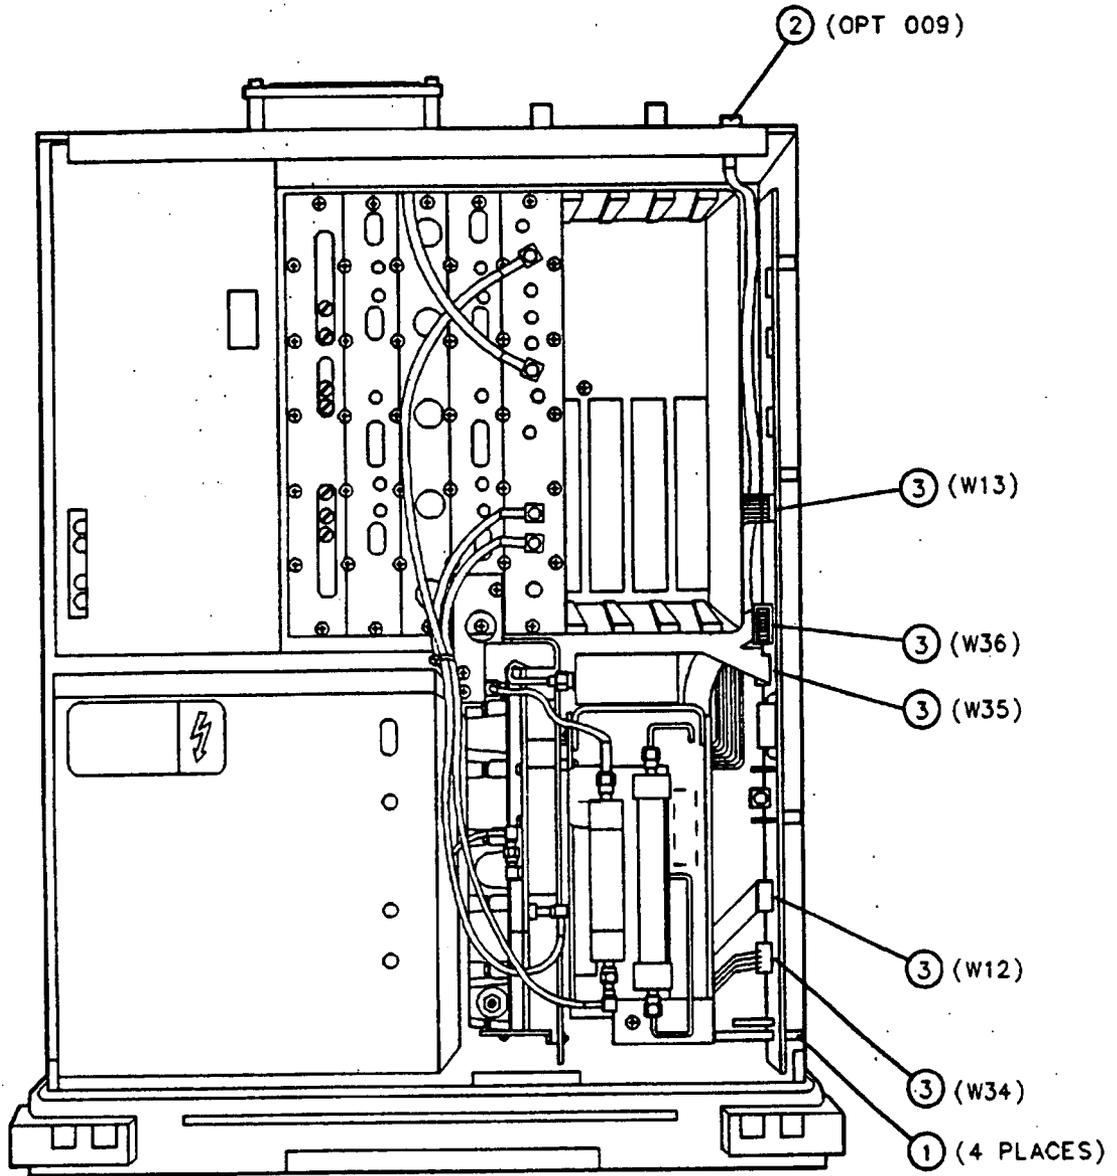

Figure 3-26. A7 Analog Interface Assembly Replacement
2. Remove the four screws (1), which secure the A7 Analog Interface assembly to the right side of the instrument chassis. See Figure 3-26.